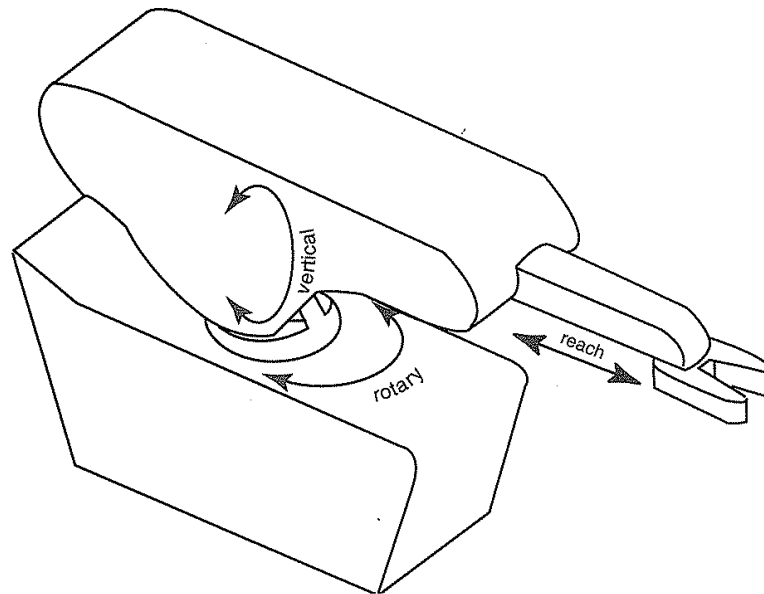

Figure 1: The Spherical Robot.
- (c) Referring to the **Figure 1**, illustrates the work envelope of this robot.